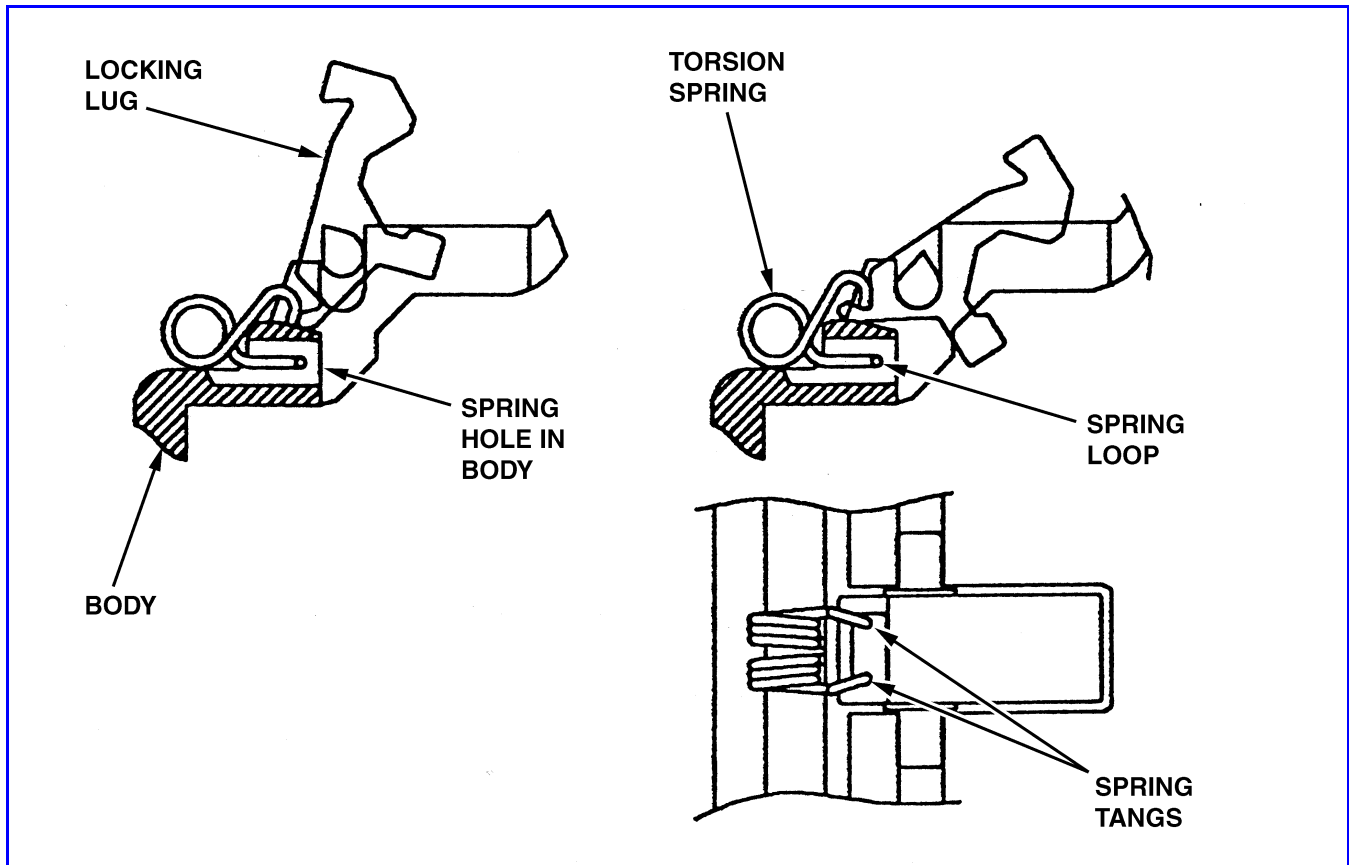

Figure 4. Installing the Springs and the Locking Lugs
- 1) Refer to Figure 4 and install the springs (22) and the locking lugs (24) in the coupler body (1) as follows:
- a) Push the loop of the spring (22) into the hole in the body (1), with the two tangs resting on the top surface. Push the spring in as far as possible, so that the two tangs contact the body surface. The loop of the spring should be a tight press fit in the hole.
- b) Position the locking lug (24) in its groove of the body (1), spring anchor end inward to contact the ends of the two tangs of the spring (22). Lift and place the ends of the spring tangs into the groove of the locking lug. Press the locking lug inward and rotate it into position. Make sure that both of the spring tangs are still in their correct positions and that the locking lug rotates freely.